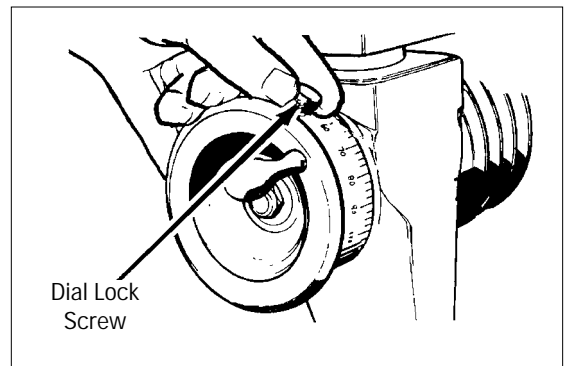

Figure 13 - Set drum diameter measurement
9. Loosen the dial lock screw on the cross feed handwheel and set the dial to the diameter of the drum as measured with the micrometer (figure 13). Tighten the lock screw.